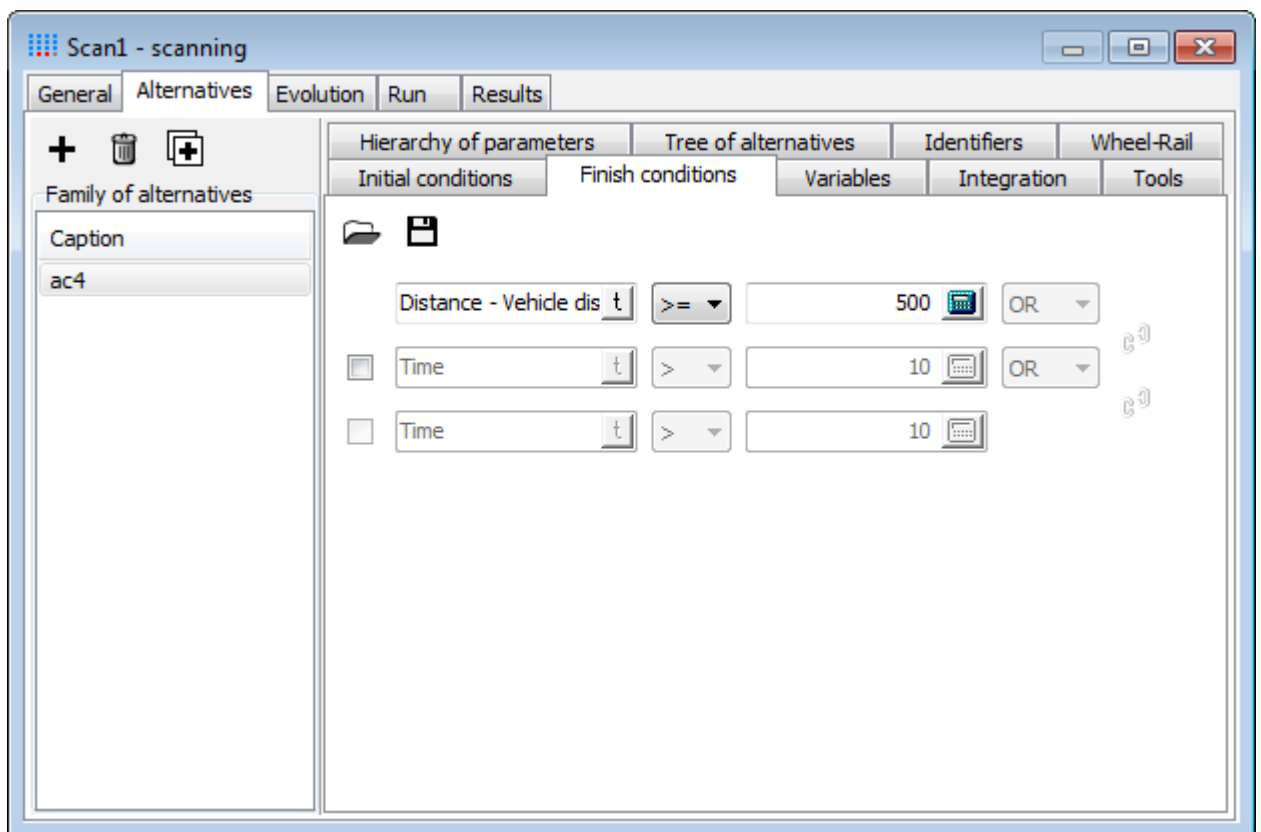

Figure 3.13. Finish conditions
Here you can describe finish conditions for each numerical experiment in the current family (see Figure 3.13). Finish conditions are formulated in the following way: “Interrupt a numerical experiment if at least one of the conditions is satisfied”. Using scanning project you can set finish condition as
2. Decrease vehicle distance down to **500** m, see Figure 3.13.